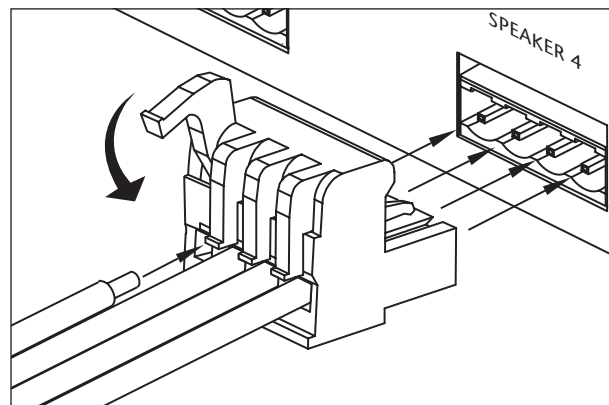

Figure 3
7. Insert the smooth side of the connector plug into the smooth side of the socket. Don't force the scalloped side of the connector plug into the smooth side of the socket. See (Figure 3).